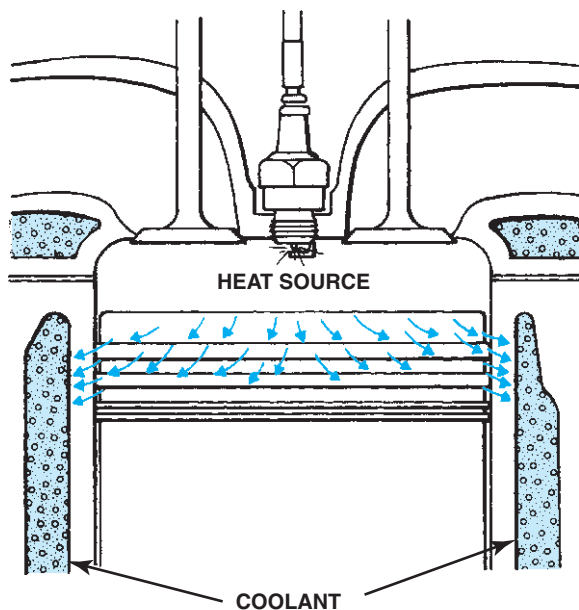

FIGURE 25-18 The rings conduct heat from the piston to the cylinder wall.
- The rings transfer some of the piston heat to the cylinder wall, where it is removed from the engine through the cooling system. See Figure 25-18.